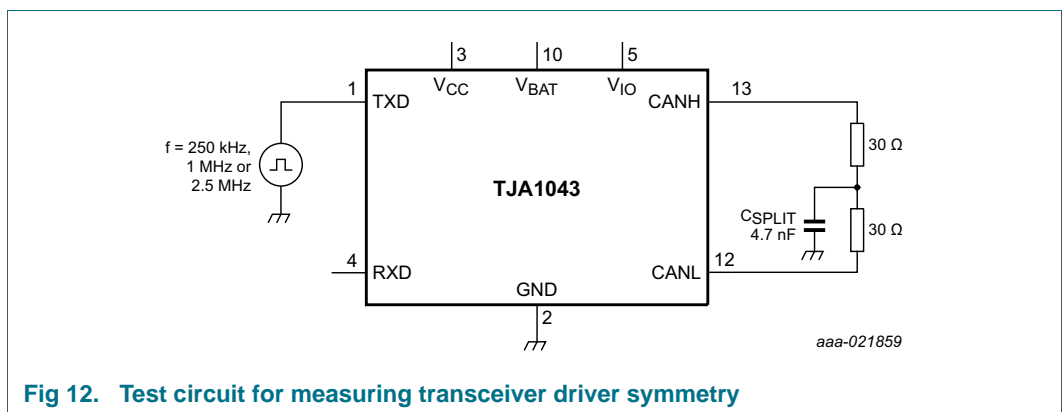

Fig 12. Test circuit for measuring transceiver driver symmetry
- [3] The test circuit used to measure the bus output voltage symmetry (which includes CSPLIT) is shown in Figure 12.